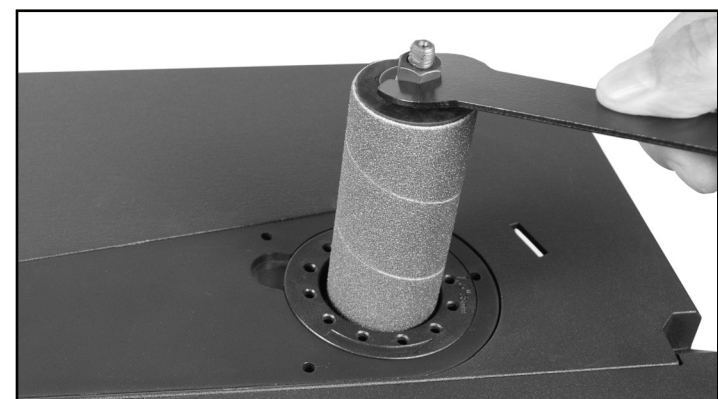

FIG. 4
The 4 rubber Sanding Drums include 3/4", 1", 1-1/2", and 2" diameters. At the top will be installed a nut, lock washer and washer that when tightened, compresses and expands the rubber drum to secure the cylindrical sandpaper sleeve in place. **NOTE:** Do not over-tighten the top nut as this will over-distort the rubber body and sanding sleeve, and may damage the spindle shaft's threading. Figure 4.
5. Install the appropriate size Washer, Lock Washer and Top Nut onto the spindle's top threaded end. Tighten the nut to expand the rubber body. This will secure the sanding sleeve in place. FIG. 4.